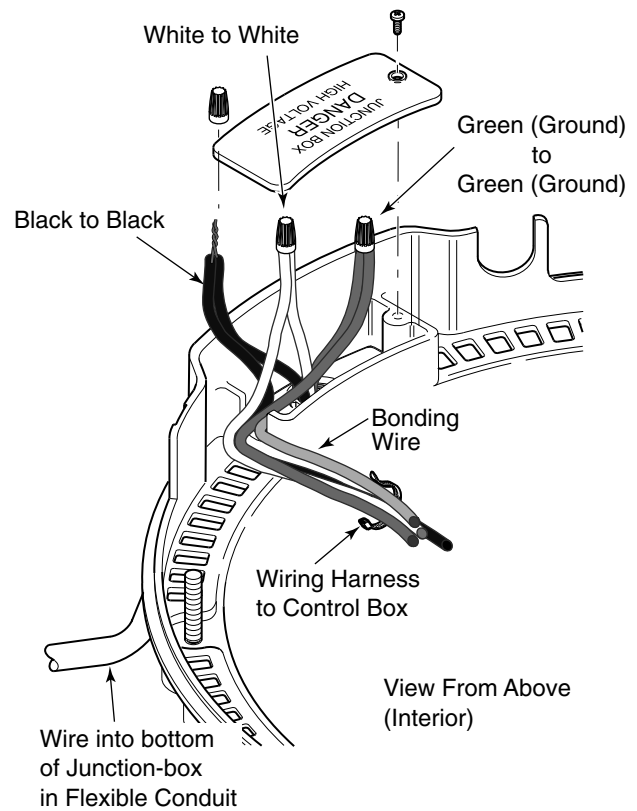

Figure 10: Junction Box Wiring Connections
40. Reconnect all wiring. See Figure 10 for Junction-box connections, and see Page 7 for complete wiring schematic.